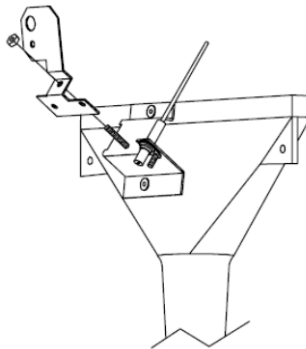

Figure 2
4. For 75,000 BTU or smaller heaters, reference Figure 2. Attach the replacement bracket and secure it in place with # 8-32 kep lock nut.